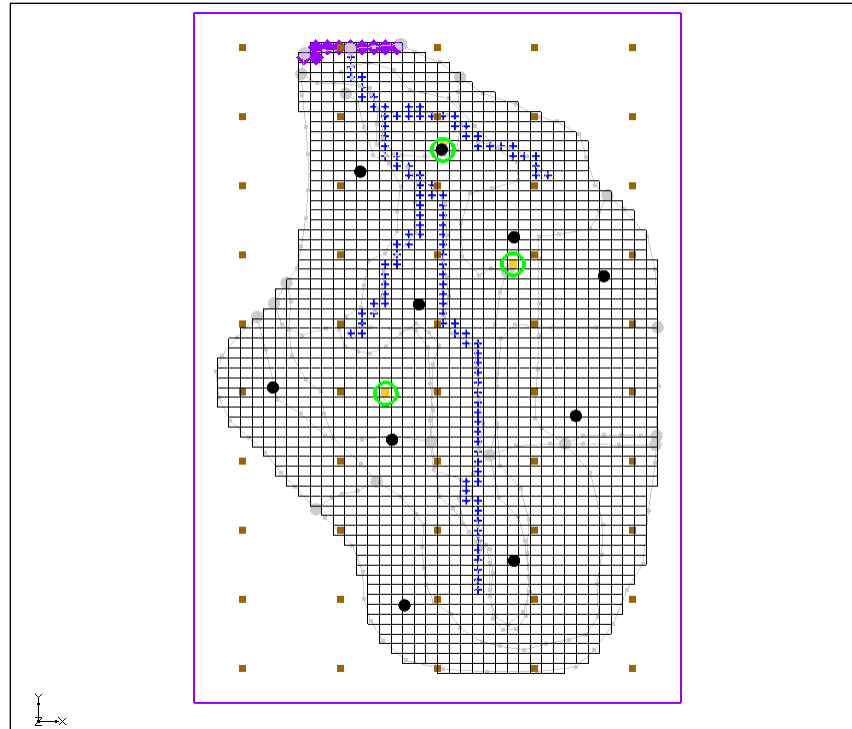

Figure 6: Location of pumping wells
Notice that there are three pumping wells in the model (Figure 6, the center of each green circle). For purposes of illustration, assume that a pump test was performed at each of these wells and the HK was estimated.
6. From the Dynamic Toolbar, use the **Create Scatter Points**  tool to create a scatter point at each of the pumping wells as shown in Figure 6.